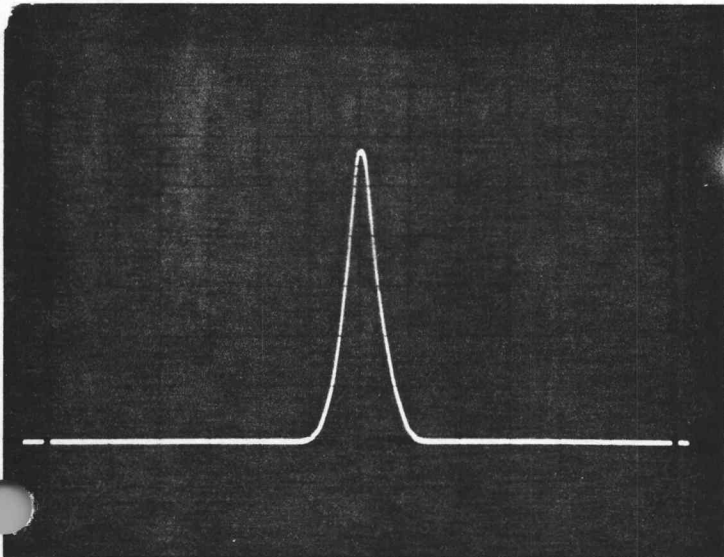
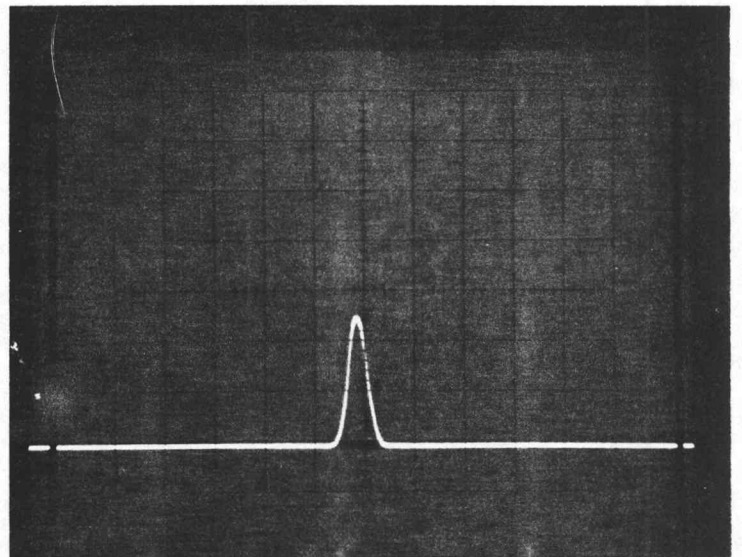

Fig. 7
Fig. 8
2. The signal should look something like Fig. 7. While holding firmly to make good grounding connection, tweek start spur screw Fig. 6 to min which must at least be 45db down. See Fig. 8. Remove-this completes the test.